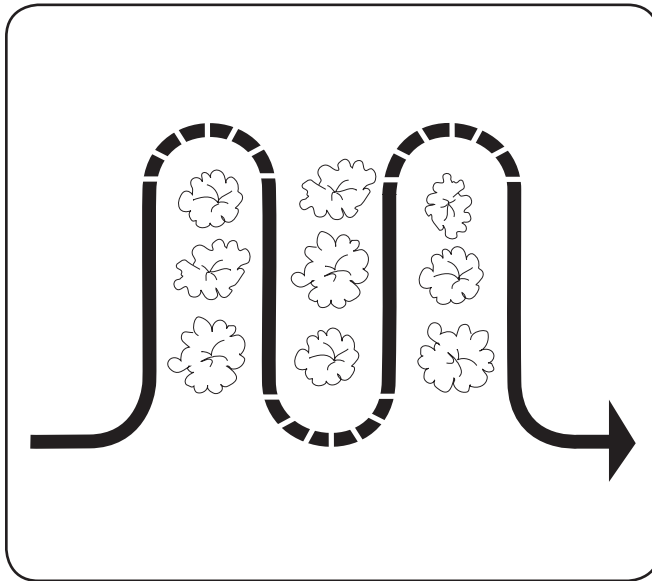

Figure 4-14
- With planning, you can allow enough room between rows to cultivate. Leave room for the hood width, plus enough extra room for future plant growth. See Fig. 4-14.